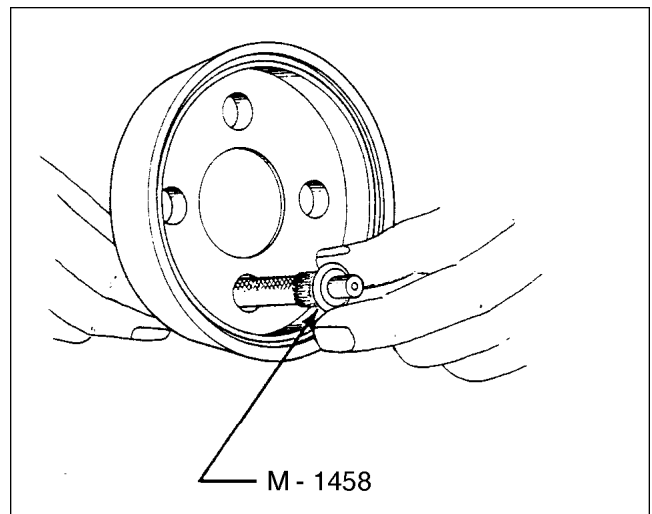

Figure 8-30. Securing wire in Housing
3. Drive the ferrule into the M-1569 or M-1893 Housing using the M-1744 Drive Tool, similar to step i, 3. Refer to Figure 8-30.